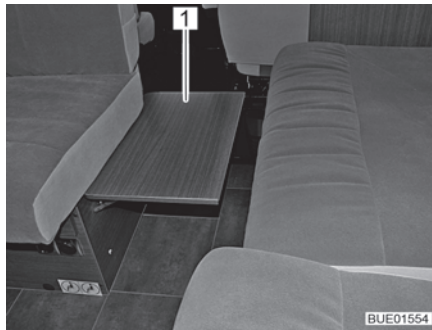

Fig. 99 Folding bench seat enlargement
- Fold up the bench seat enlargement (Fig. 99,1) on the front bench and lock into place.